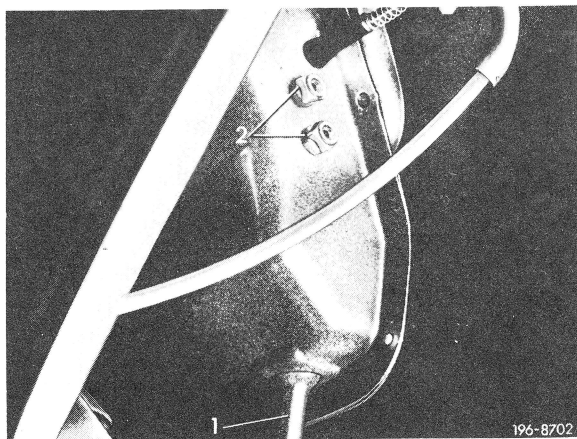

Fig. 2
2 Punch through drain pipe on tank recess (1) with welding wire or the like and clean by blowing. Check passage (Fig. 2).
3 Seal square welding nuts (2) for tank flap attachment (Fig. 2).